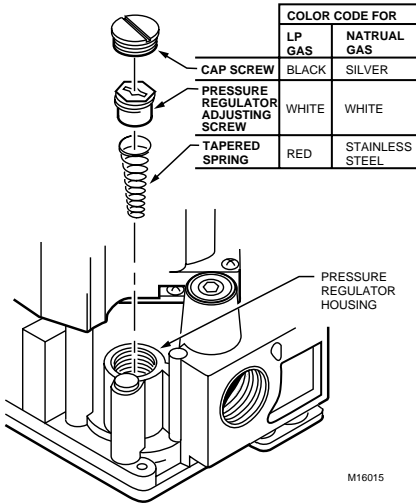

Fig. 1. Install conversion kit in regulated gas control.
4. Insert the replacement spring with the tapered end down. See Fig. 1.